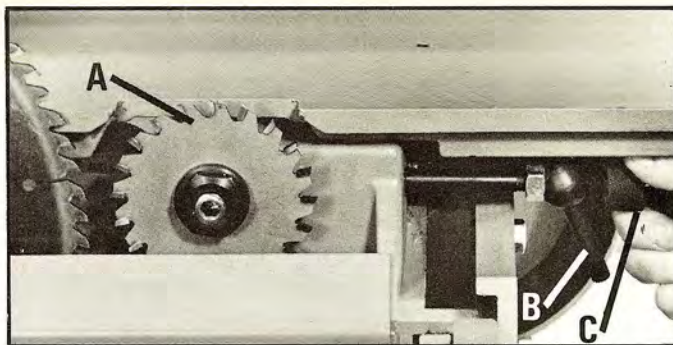

Fig. 27
1. The scoring blade (A) Fig. 27, must be exactly in line with the saw blade. To move the scoring blade right or left, first loosen clamp handle (B) Fig. 27, and then turn knob (C) until scoring blade lines up with saw blade.